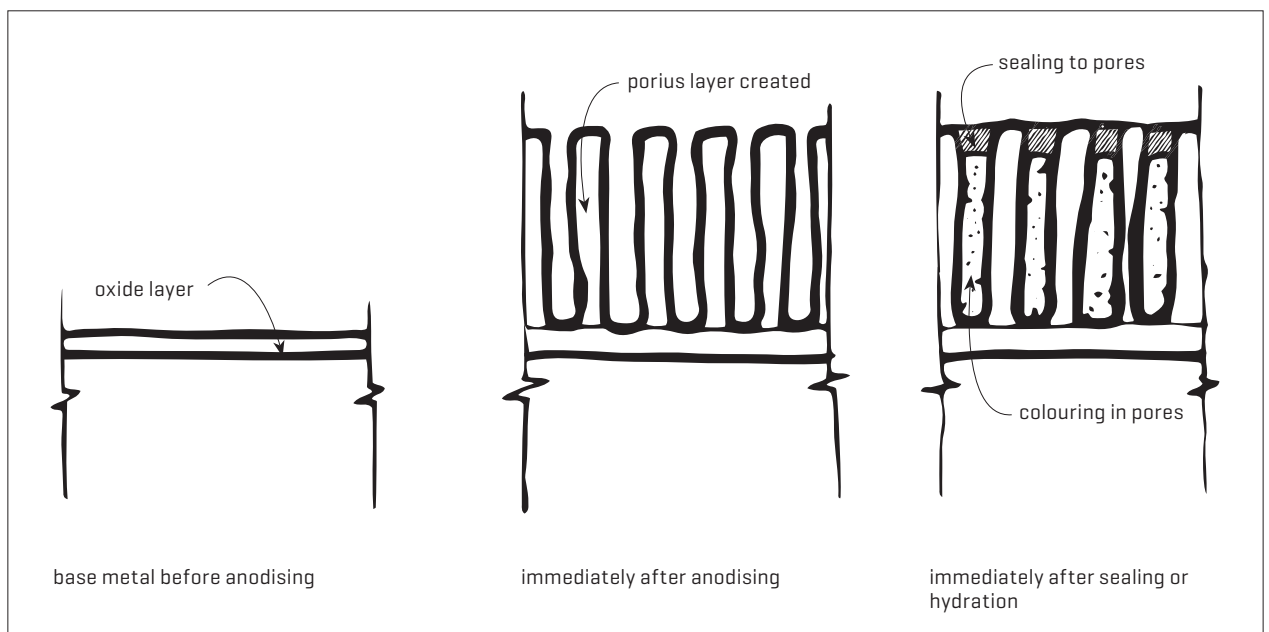

Figure 1. Anodising process.
4.2.1 The thin naturally occurring oxide film on the surface of aluminium provides inherent corrosion resistance. Anodising involves the complete removal and then artificial thickening of the oxide surface film by immersing it in a chemical bath and passing an electric current through the metal. This electrochemical treatment produces a dense, hard, nonreactive surface [Figure 1] that improves adhesion of organic coatings, hardness and resistance to wear, weathering and corrosion.